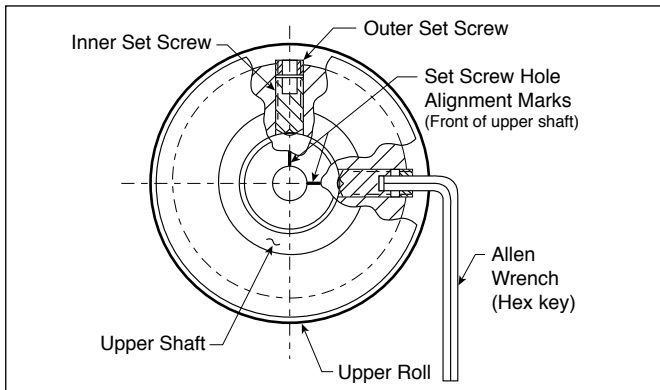

FIGURE 2
- Insert the allen wrench completely through the outer set screw and into each inner set screw, as shown in Figure 2 above. Loosen each inner set screw two turns.